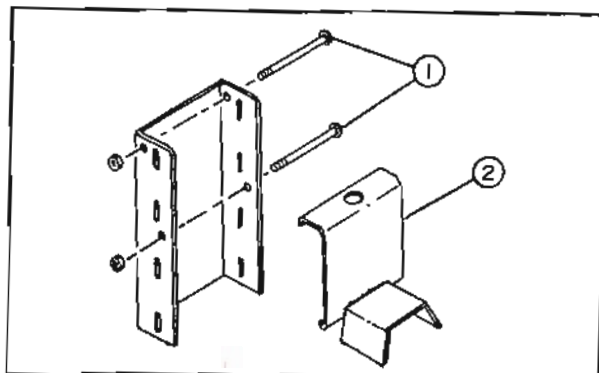

FIGURE 13
- e) Install one 1/4" x 7 1/2" bolt (fig.13, item 1) through top holes in reduction box support and secure loosely with lockwasher and nut.
- f) Hook reduction box cover (fig.13, item 2) over the bolt and secure the cover with a second 1/4" x 7 1/2" bolt (fig.13, item 1), lockwasher and nut. Tighten both bolts (see Torque Table page 37).